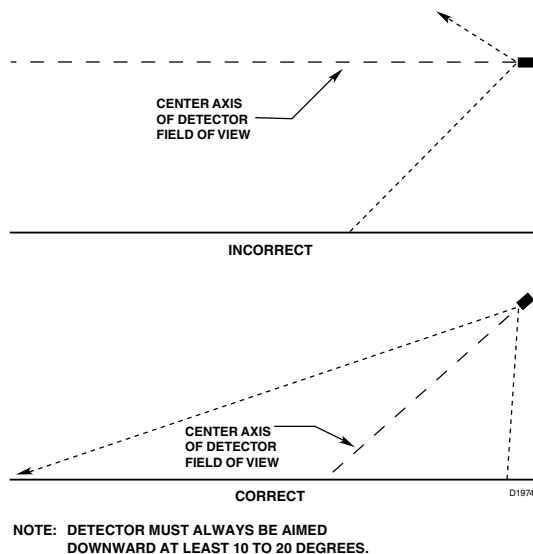

Figure 1—Detector Orientation Relative to Horizon
- The detector should be aimed downward at least 10 to 20 degrees to allow lens openings to drain (see Figure 1). **The detector should be positioned so that its FOV does not cover areas outside the hazardous area.** This will minimize the possibility of false alarms caused by activities outside the area requiring protection.
(See Figure 1 for Correct Detector Orientation.)